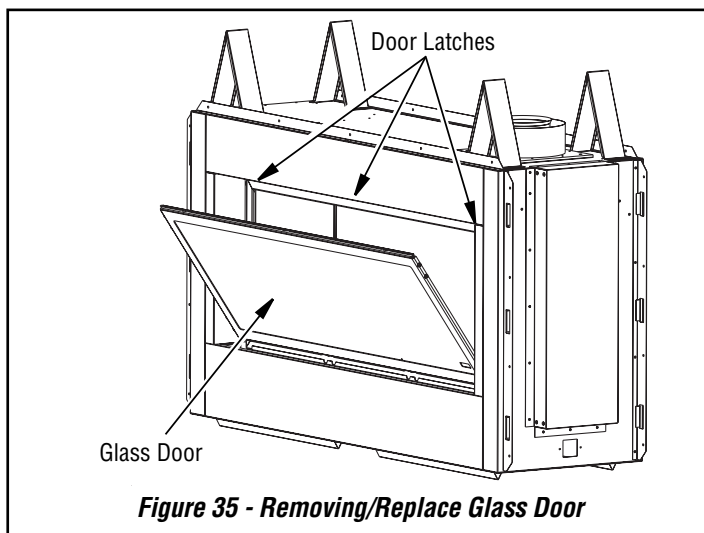

Figure 35 - Removing/Replace Glass Door
1. Position door frame in front of firebox opening tilting top of door about 45° toward you. Insert bottom flange of glass door into the retaining channel at the bottom of firebox (see **Figure 35**). Make sure door is center with firebox opening.
4. Tilt open glass door 45° from the top of firebox and lift up to release door from retaining channel (see **Figure 35**).